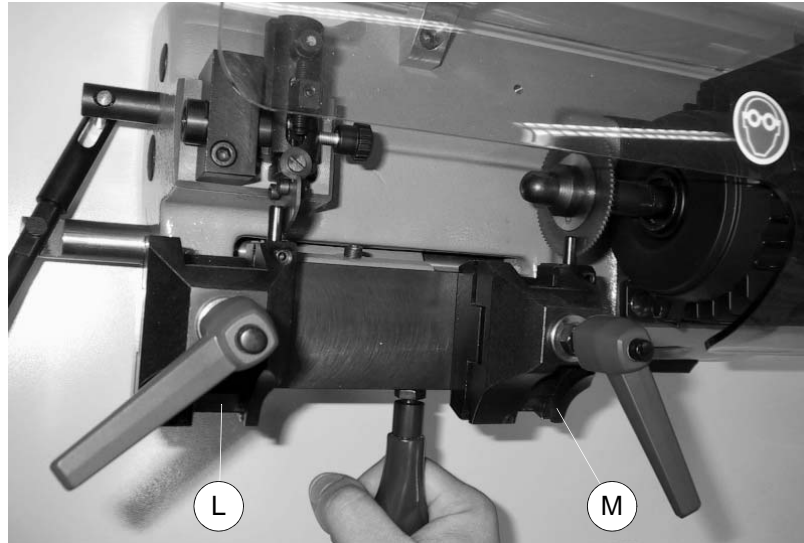
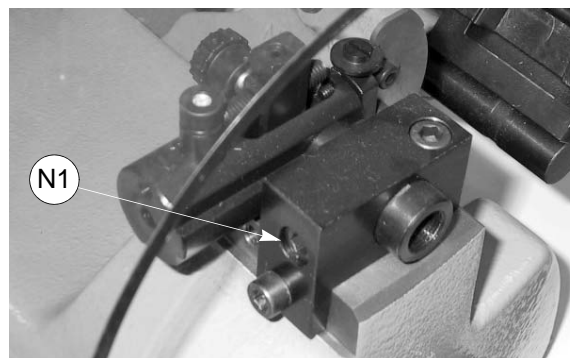

Fig. 10
Fig. 11
- 2) move the clamp carriage until the tracer touches the gauge (fig.10).
- 4) the cutting interval is correct when the cutter skims the gauge in the right clamp (M). Otherwise proceed as follows:
- loosen the screw (N1) of the tracer unit (fig.11).
- move the tracer unit next to the gauge in the left clamp (L).